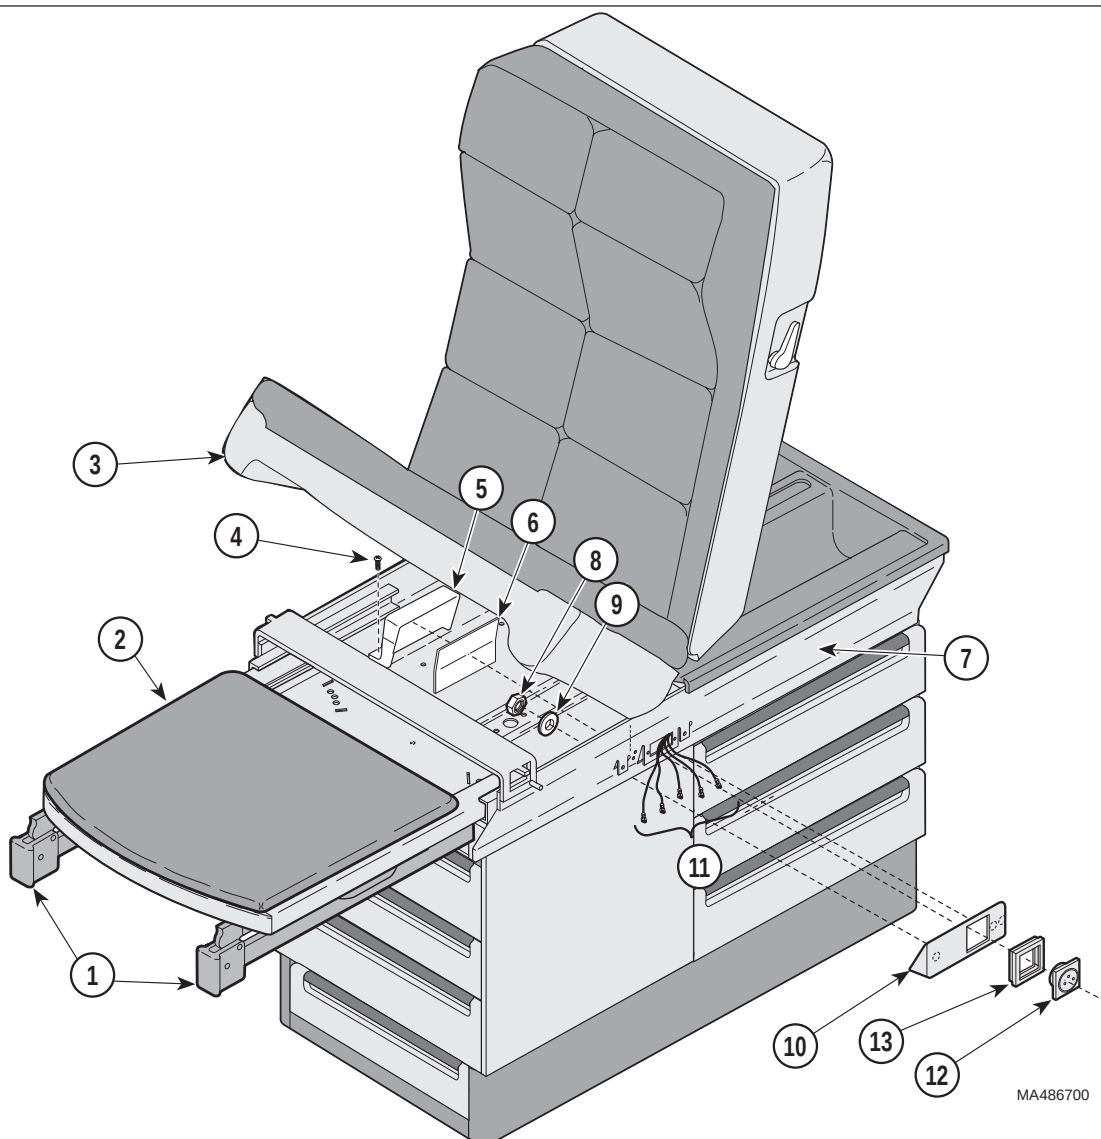

Figure 4-12. Typical Electrical Receptacle Removal / Installation (220 VAC units, UK shown)
- (8) Tag and disconnect the electrical leads and ground wire (13) from the receptacle (12) and remove the receptacle.
When installing the electrical leads (13, Figure 4-12) on the receptacle (12) be sure the insulation on the leads covers sufficiently to prevent electrical shorts to the cabinet. The black leads connect to the side of the receptacle with the black screws and the white leads connect to the side with the silver screws.
- (1) Connect electrical leads and ground wire (13) to the proper terminals on the receptacle (12) (Refer to para 5.1).
- (1) Unplug table power cord from wall outlet.
- (2) Pull stirrups (1, Figure 4-12) and footrest section (2) out to full extension.
- (3) Raise seat section (3) up.
- (4) Remove two screws (4), receptacle box (5) and fishpaper insulator (6) from inside of upper wrap (7).
- (5) Remove two nuts (8), two lockwashers (9) and partially separate receptacle cover (10) from upper wrap (7).
When connecting the electrical leads and ground wire (11, Figure 4-12) to the receptacle (12), be sure the insulation on the leads covers sufficiently to prevent electrical shorts to the cabinet.
- (1) Pull electrical leads and ground wire (11) thru receptacle cover (10) and switch bezel (13) and connect to proper terminals of receptacle (12) (Refer to para 5.1).
- (2) Position receptacle (12) properly and insert thru switch bezel (13) and receptacle cover (10), pushing inward until receptacle locks into place.
- (3) Position receptacle cover (10) on upper wrap (7) and secure with two lockwashers (9) and nuts (8).